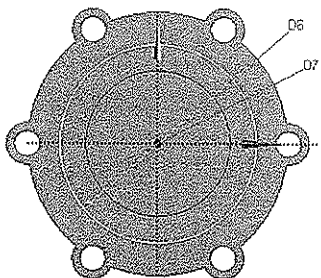

Figure 4-63 Dimensioned sketches
- 9. Next, click on the outer circle and then place the dimension such that it does not interfere with any other entity, refer to Figure 4-63.
- 10. Similarly, select the inner circle and place the dimension, refer to Figure 4-63.